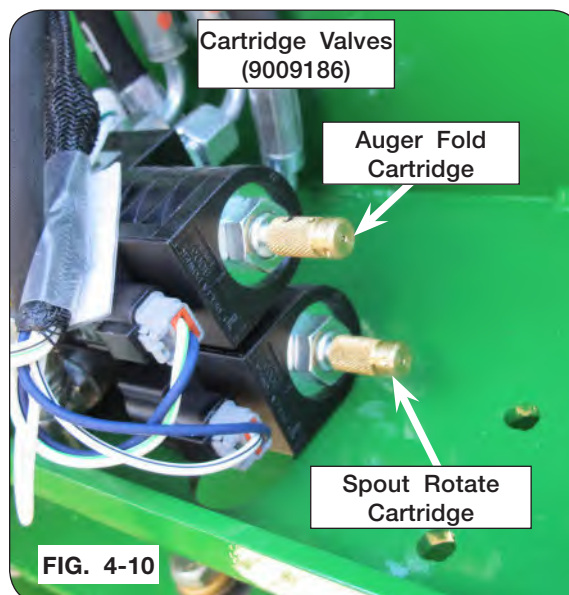

FIG. 4-10
NOTE: Operate one cartridge valve (9009186) at a time. Keep other valve in normal position. (FIG. 4-10 & 4-11)
5. Locate the desired valve (9009186). (FIG 4-10)